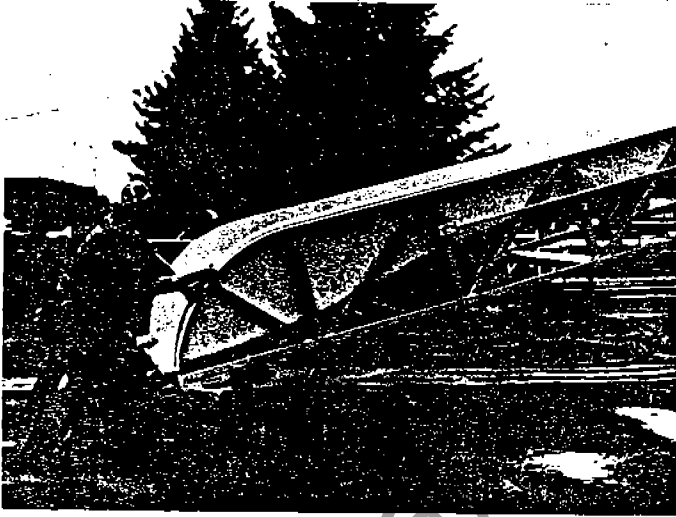

Fig. 37
- a. Push down on the rear end of the lower slide section in order to tip the front end up to meet the upper slide section. (Fig. 37)